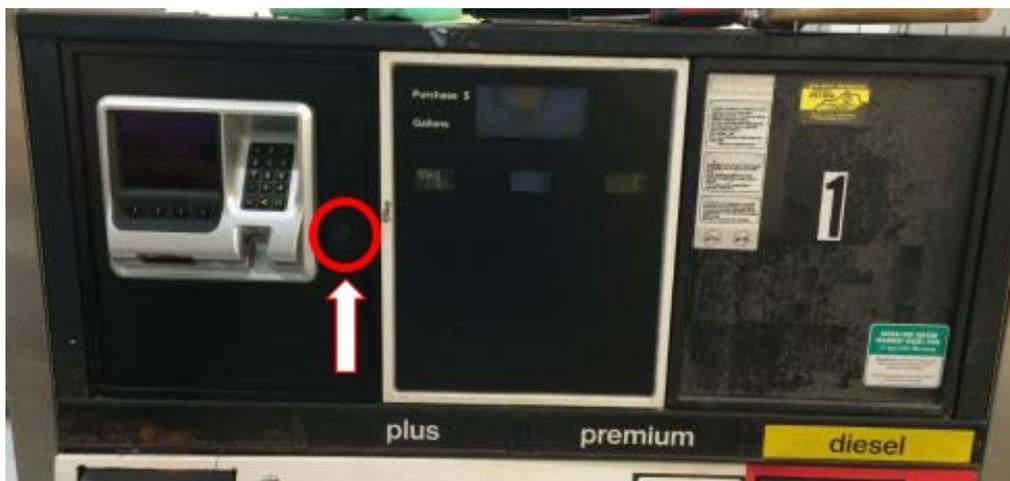

Figure 108
- 2) Using a TPX88 Tokheim key, unlock OPTIC door on Side A. See Figure 108